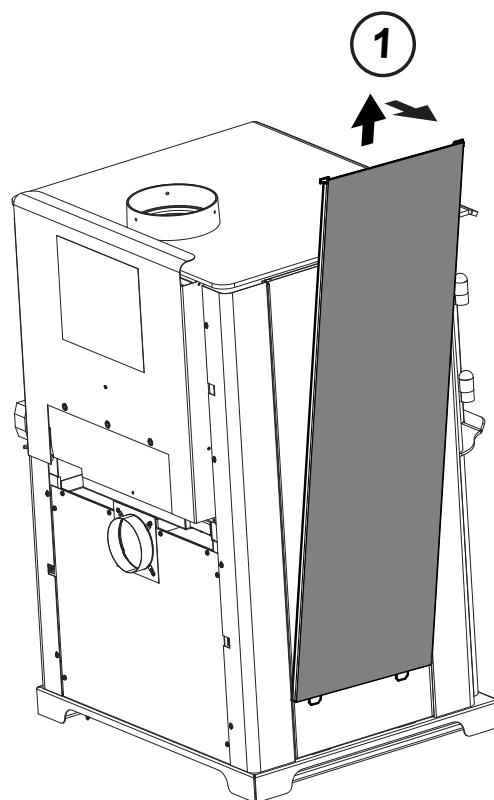

Figure 24.4
4. Reattach tile frame **Figure 24.4**.